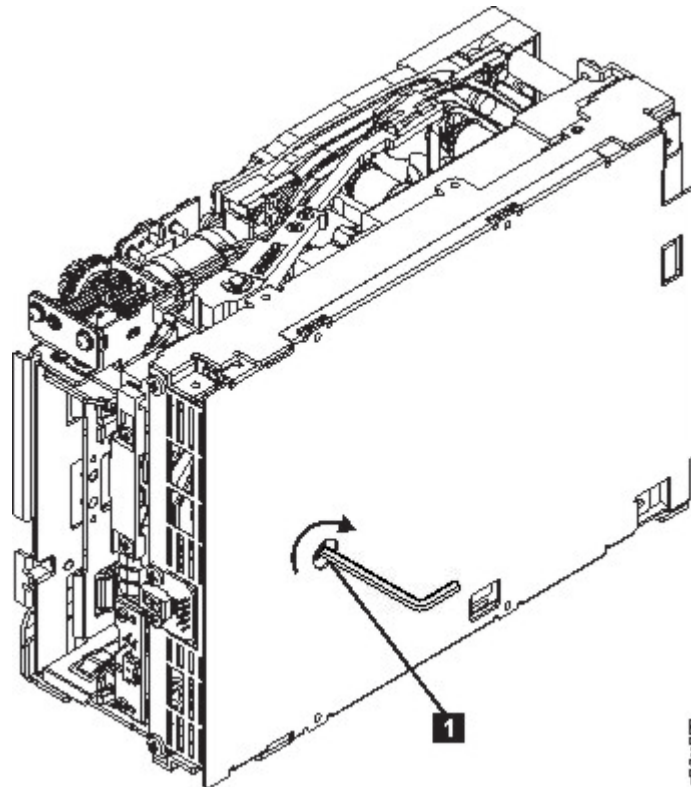

Figure 113. The hex wrench rewinds tape into cartridge
6. From the bottom of the drive, locate the access hole (**1** in Figure 113) in the bottom cover. Insert a 2.5 mm offset hex wrench through the bottom cover access hole and into the reel motor axle. Begin spooling tape back into the cartridge by turning the hex wrench clockwise.